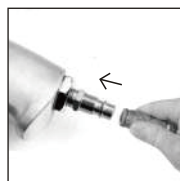

Figure 2
5. Connect air supply hose to the male plug. Set the air pressure at 90 PSI. (See Figure 2)